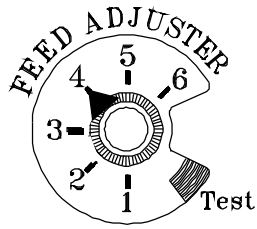

Fig. 1
4. Adjust Feed Rate. If this is your first fire or you are trying different pellets, set the feed adjuster to #4, Fig. 1. This is a conservative number and will probably need to be increased. After you know a feed rate setting that works well, use that setting. Remember, if your feed rate is too high you may waste fuel.